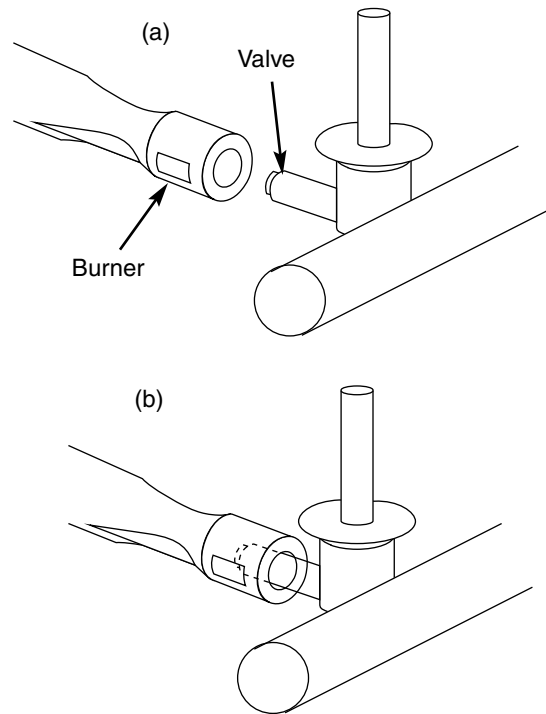

**Figure 19**
- h) Lift and twist the burner assembly slightly, to separate the crossover tube from the burners. Figure 19. Remove the burners from the cooking box.